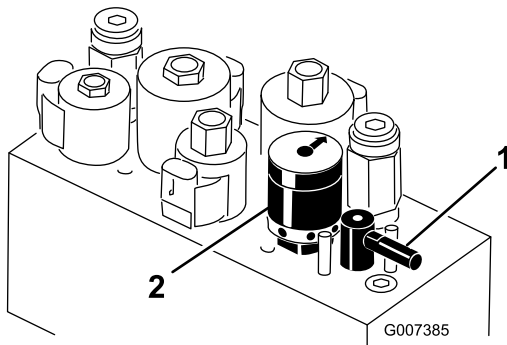

Figure 60
5. Rotate the Backlap Lever to the "R" position (Figure 60).
6. Rotate the Reel Speed Control to setting 1 (Figure 60).